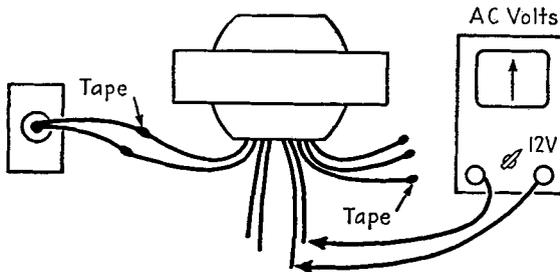

FIG. 8-9. Identifying the amplifier heater winding.
3. Connect the primary to the AC line, and check the voltage of the filament windings to determine which is the amplifier and which the rectifier filament winding (Fig. 8-9).